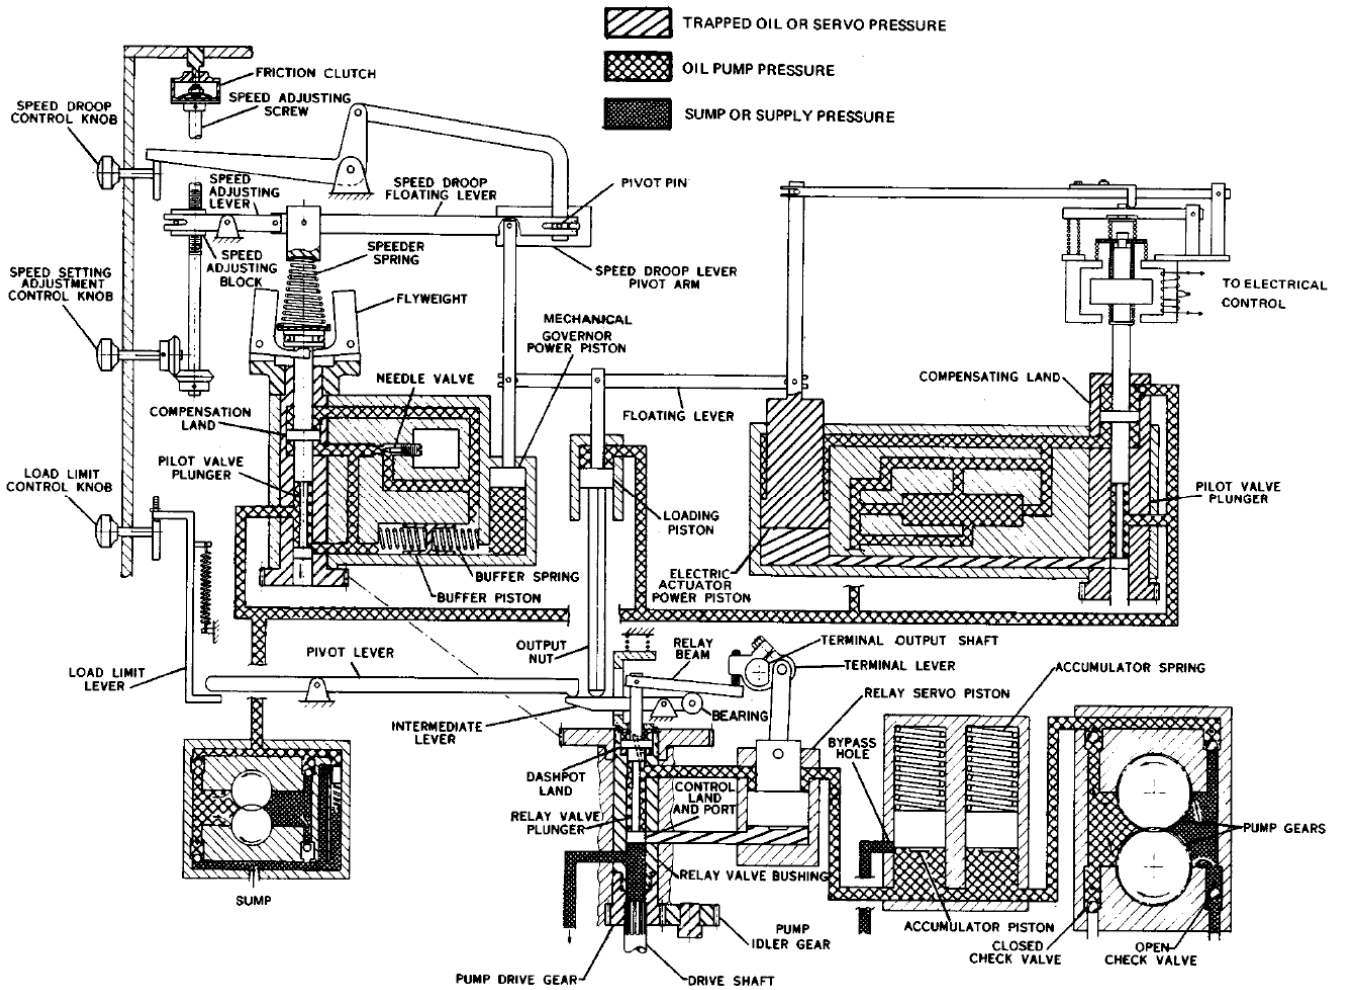

Figure 3-1. Schematic Diagram of EGB-10PLS Hydraulic Actuator
The EGB-10PLS hydraulic actuator (see Figure 3-1) consists of three distinct but interconnected sections: (1) an electric governor section; (2) a mechanical governor section; and (3) a hydraulic amplifier section which amplifies the force output of the other two sections. The amplifier section also provides a source of pressure oil for that section.
The EGB-10PLS actuator contains two separate hydraulic circuits. Each circuit utilizes the oil of a common sump within the actuator. The relay valve oil pump (see Figure 3-1) provides pressure oil required by the amplifier section. The actuator drive shaft, driven at a speed proportional to engine speed, rotates the pump drive gear and rotating bushing. Pressure oil forces the accumulator pistons up, opposing the downward force of the accumulator springs. When the pistons move up sufficiently, one piston uncovers a bypass hole through which excess oil is returned to sump. The accumulator thus not only provides a reservoir for pressure oil but acts also as a relief valve to limit maximum pressure in the hydraulic circuit.
The arrangement of the four check valves on the suction and discharge sides of the oil pump permits the actuator drive shaft to be rotated in either direction without any changes being made in or to the governor. The direction of pump rotation does not affect the oil pressure system or actuator operation. Were the pump gears rotated in directions opposite those shown in Figure 3-1, the open check valves would be closed and the closed check valves open.
During the normal mode of operation of the actuator the electric governor (see Figure 3-1) will be controlling and the servo piston of the mechanical governor will be at the top of its stroke (refer to mechanical governor section).
The mechanical governor (see Figure 3-1) controls the prime mover during starting and also functions as a backup governor to prevent runaway should the electric control unit fail and call for maximum fuel or steam. The mechanical governor pilot valve plunger controls the flow of oil to its servo piston. If the plunger is centered, no oil flows through the pilot valve and the servo piston is stationary. The greater of two opposing forces moves the pilot valve plunger: the speeder spring force tends to push it down; the centrifugal force developed by the rotating flyweights is translated into an upward force which attempts to raise the plunger. With the pilot valve centered, there is but one speed at which the centrifugal force of the flyweights is equal and opposite to the speeder spring force.